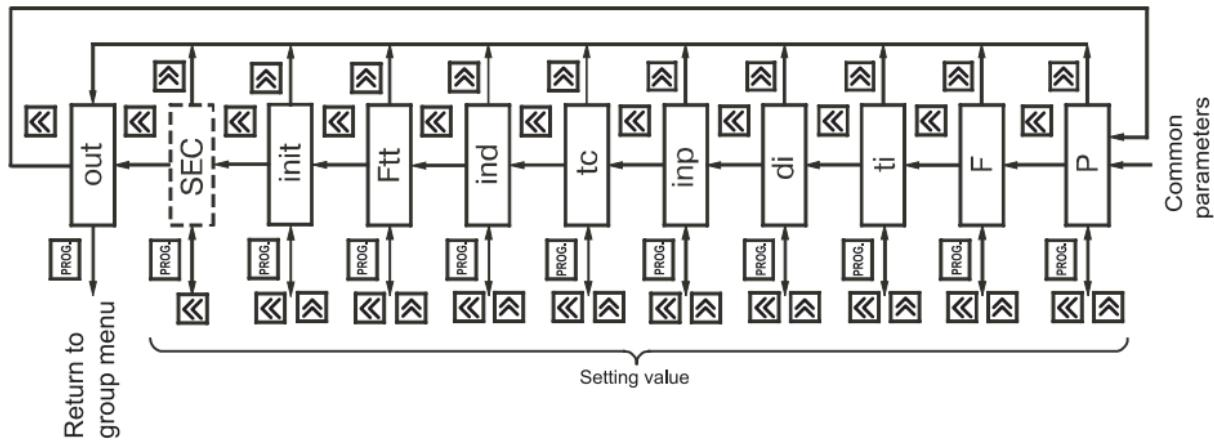

Figure 25.
6.1.8. «**GrouP_C**» group (figure 25) contains **inP** and **tc** parameters that define operation mode of the input commutator, coefficients of predivider **P** and multiplier **F**, measuring time **ti** and initial bias **di** for flow meter, and also operation modes of timing device **Ftt**, indication **ind** and reset of counter of impulses at switching on the instrument **init**.